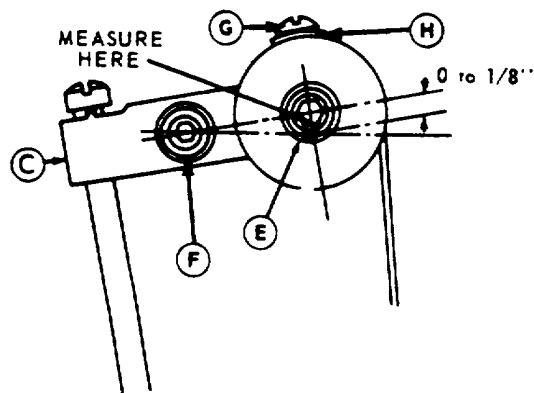

FIGURE 100
- (e) Now rotate Brake Cam B counterclockwise (left) to take up slack in brake strap, until Lever C is horizontal or 1/8" above horizontal (see Figure 100). Tighten Screw E.
(2) Replacing Brake Strap (Part No MBB-1828A)
- (a) See Figure 100 Open belt guard, loosen Screw E, and remove brake strap from anchor stud.